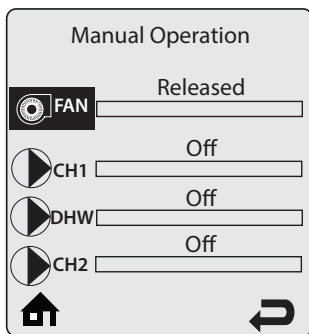

Figure 8 CTRLMax Manual Operation
4. Make sure that the FAN icon is highlighted. Press the center button to manually fire the burner and apply power to the CH circulator. Refer to Figure 8.